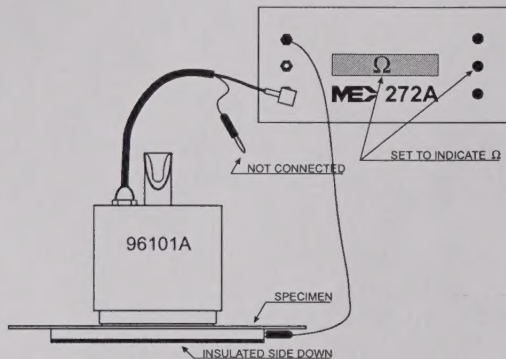

Figure 5
Most materials commonly being tested in today's world of ESD awareness are intended not to be electrically insulative. For specimens that have negligible surface leakage, an unguarded measurement based on the actual area of the (1.2" dia.) center electrode greatly simplifies the calculations. For material samples less than 0.060" thick, the errors introduced into an unguarded measurement are usually small enough to be negligible. Connections for unguarded measurements are given in Figure 5. Factors for converting meter readings (in Ω) directly to volume resistivity (unit Ωcm) are presented in Table 1.
1. Arrange test setup as in Figure 5.